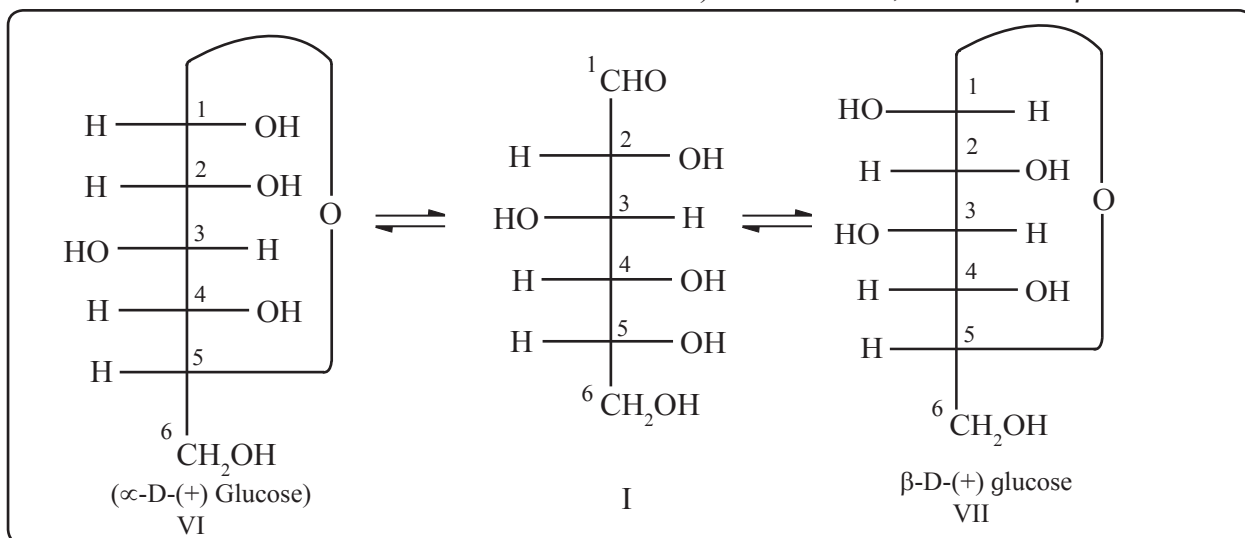
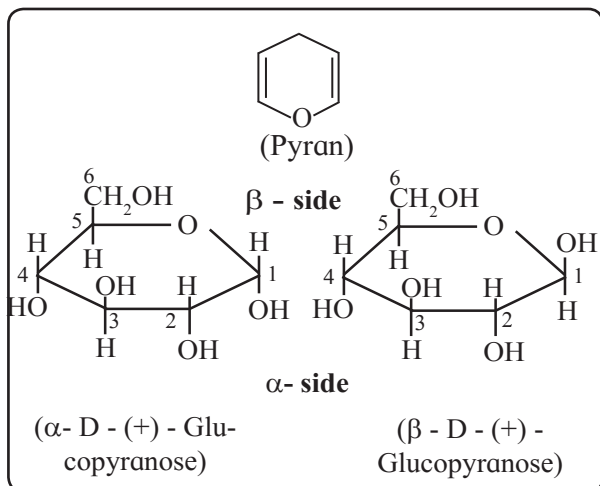

Fig. 14.5 Ring structures of glucose: Fischer projection formulae
Fig. 14.6 : Haworth formula of anomers of glucopyranose
Glucose is found to have two cyclic structures (VI and VII) which are in equilibrium with each other through the open chain structure (I) in aqueous solution (Fig.14.5).
The ring structure of glucose is formed by reaction between the formyl (-CHO) group and the alcoholic (-OH) group at C-5. Thus, the ring structure is a **hemiacetal** structure (section 12.8.2 c). The two hemiacetal structures (VI and VII) differ only in the configuration of C-1 (Fig. 14.5), the additional chiral centre resulting from ring closure. The two ring structures are called α - and β - **anomers** of glucose and C-1 is called the anomeric carbon. The ring of the cyclic structure of glucose contains five carbons and one oxygen. Thus, it is a six membered ring. It is called pyranose structure, in analogy with the six membered heterocyclic compound pyran (Fig. 14.6). Hence glucose is also called **glucopyranose**. Haworth formula is a better way than Fischer projection formula to represent structure of glucopyranose (Fig. 14.6). In the **Haworth formula** the pyranose ring is considered to be in a perpendicular plane with respect to the plane of paper. The carbons and oxygen in the ring are in the places as they appear in Fig. 14.6. The lower side of the ring is called α -**side** and the upper side is the β -**side**. The α -anomer has its anomeric hydroxyl (-OH) group (at C-1) on the α -side, whereas the β -anomer has